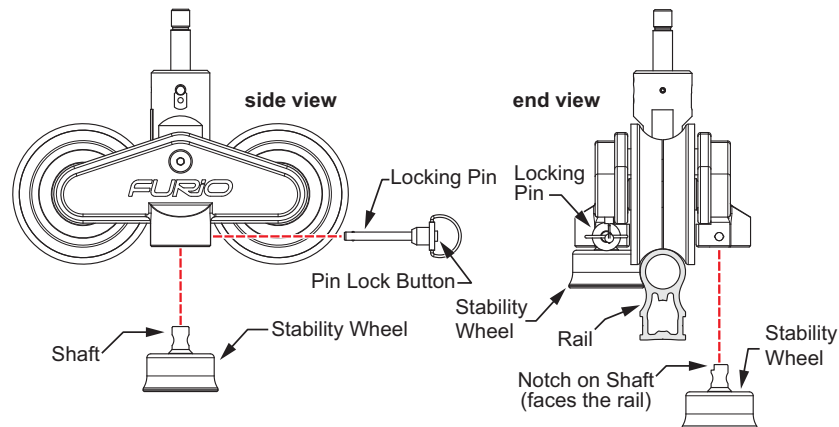

Figure 4 - Removing Stability Wheels
2. Remove the locking pin by pressing and holding the pin lock button while sliding the locking pin out. Refer to **Figure 4**.